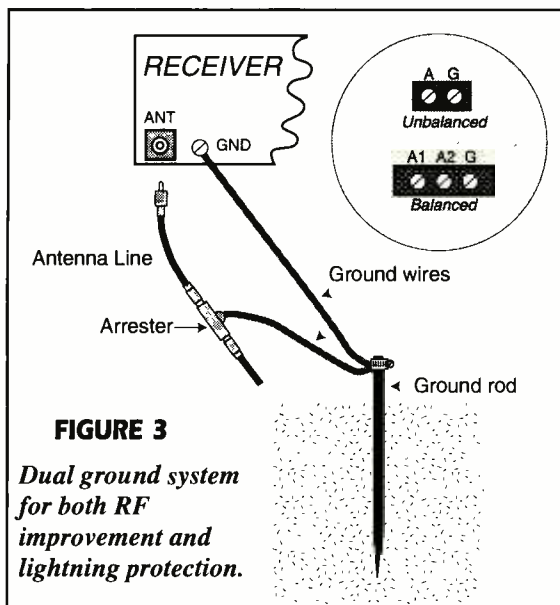

FIGURE 3
A somewhat better system is shown in Fig. 3. On the rear panel of most modern shortwave receivers are two connectors: a coaxial connector for the antenna (ANT), and a ground connection (GND). The latter is
On some receivers, especially older designs, there will be a small phenolic or ceramic strip (see inset to Fig. 3) with either two or three screw terminal connections. If there are two screws, then one is for the single-wire antenna lead, and the other is for the ground connection. On three-wire types, there are two for antennas (A1 and A2) and one for ground (G). If an unbalanced antenna is used with the three wire type, a shorting wire is connected between A2 and G.
The ground system in Fig. 3 uses two ground wires. One goes from the ground connection on the back of the receiver to the ground rod, while the other goes from the ground connection on the lightning arrester to the ground rod.